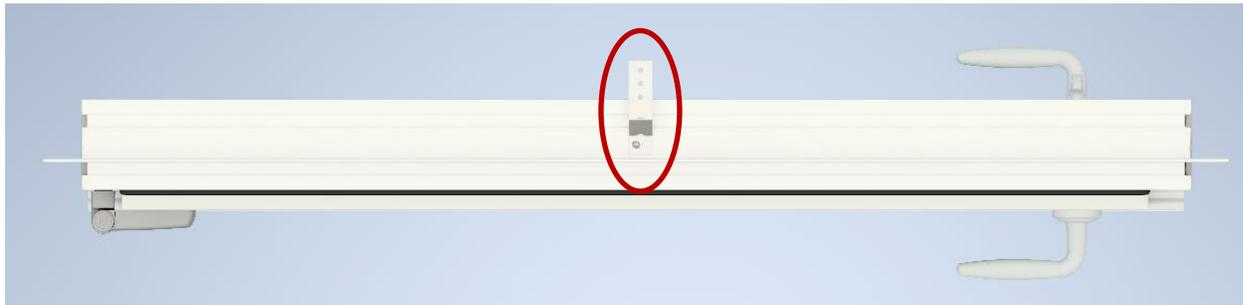
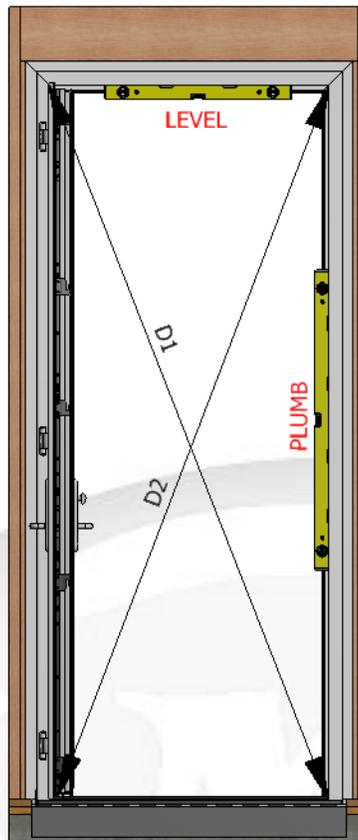

Figure 8: Single Head Anchor Strap
Figure 22: Frame Squaring View
- B) Using the single anchor strap located at the head of the door (See Figure 8) insert a temporary fastener as shown in section 5.7, A, figure 22 to hold the door in place while preparing for proper shimming and fastening.
B) Leveling and plumbing is essential. Use a level to check the sill and jambs to determine if the frame is level and plumb. See Figure 22.